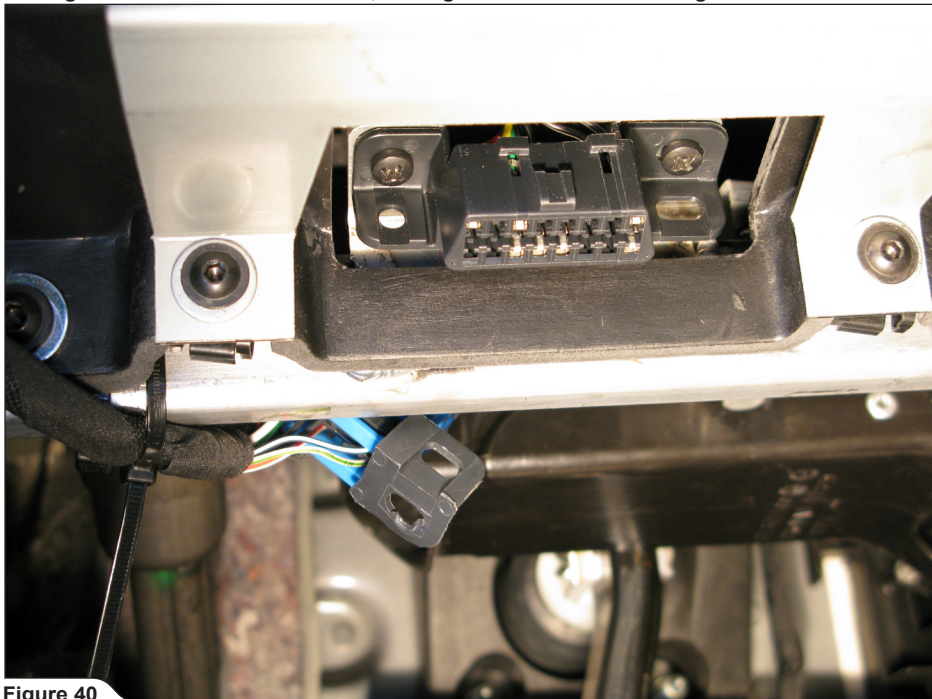

Figure 40
20. **For optional Akrapovič delete-R:** attach the delete-R's OBD connector onto the chassis and fix the Akrapovič delete-R, wires and original OBD connector, using the plastic tie wraps (**Figure 40**).